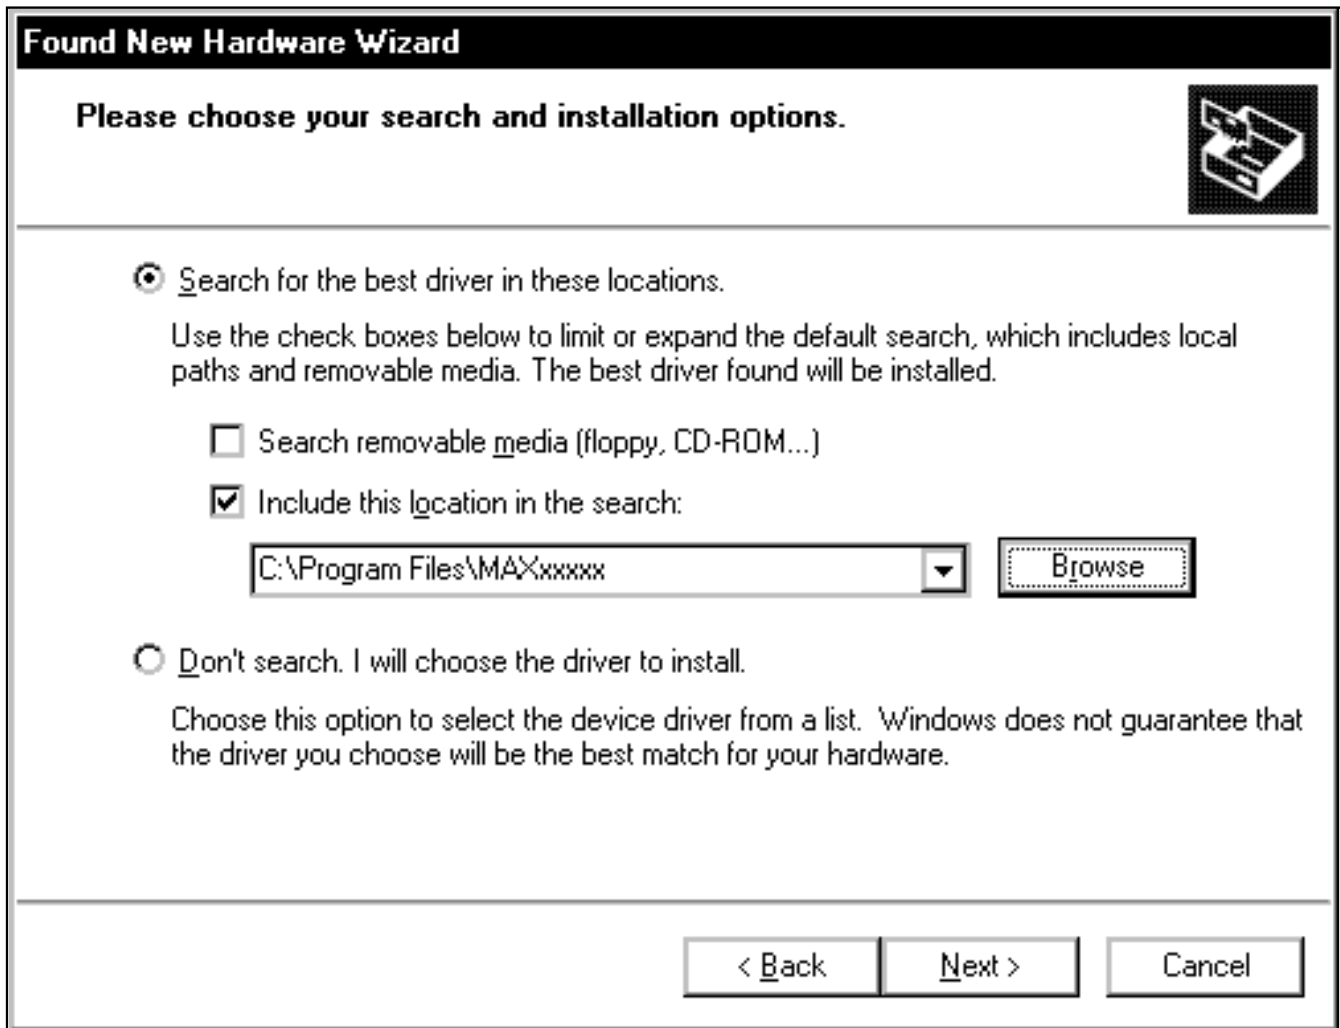

Figure 3. Windows XP: **Found New Hardware Wizard | Search Options** Window
3) At the **Found New Hardware Wizard | Search Options** window (Figure 3), choose the **Search for the best driver in these locations** option and check the **Include this location in the search** checkbox. Press the **Browse** button and navigate to the path: **C:\Program Files\MAXxxxxx** (where xxxxx represents the Maxim IC part number on the